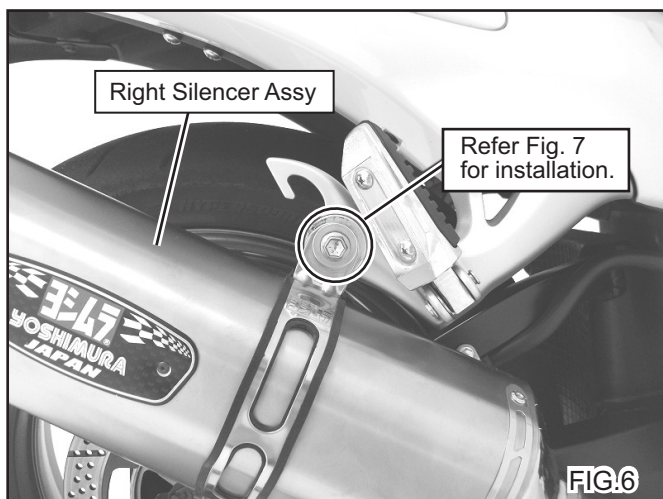

FIG.6
- 6) Mount Silencer Band that has placed Silencer Band Rubber inside to Right Silencer Assy. Then, fix the silencer band to stock silencer bracket at right side passenger foot peg with stock bolt, washer and flange nut (See Fig. 6 & 7). Tighten the stock bolt by hand only at this stage.